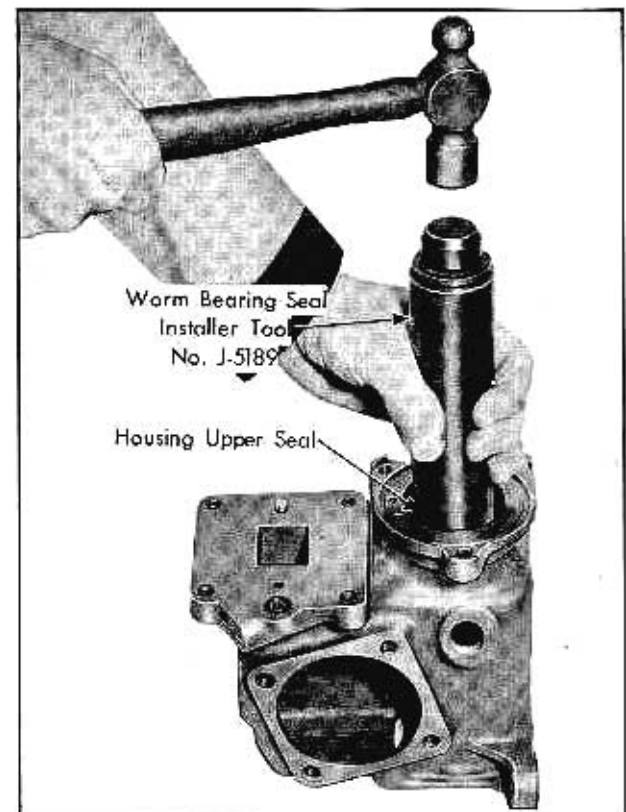

Fig. 7-29 Installing Oil Seal in Housing
3. Install oil seal in upper housing flange, using Tool No. J-5189. Fig. 7-29.